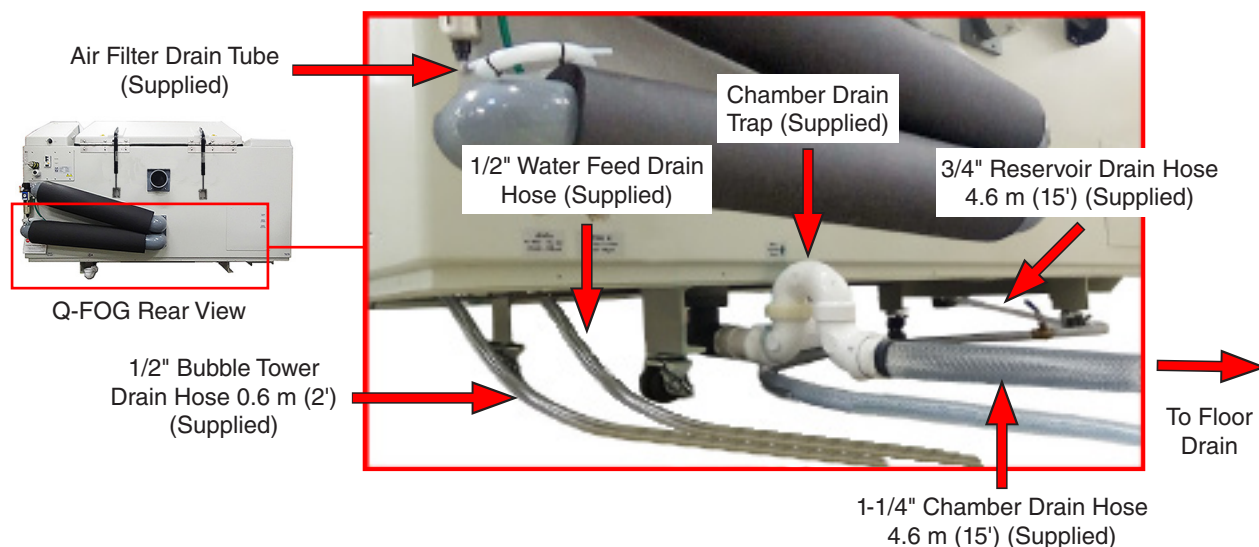
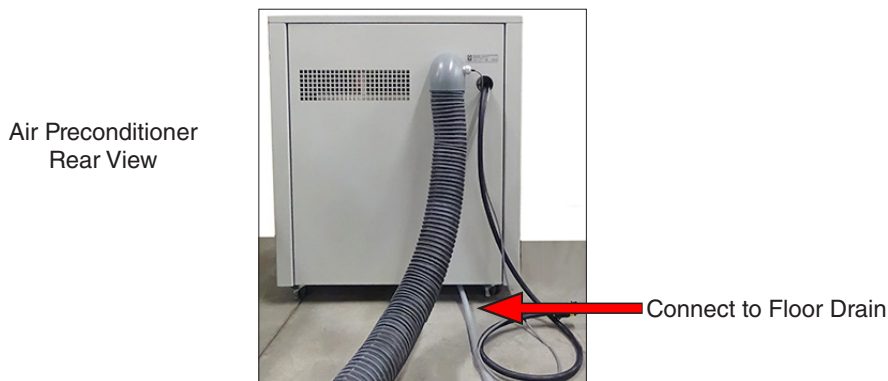

Figure 6.7a: Water drainage connections.
Figure 6.7j: Air Preconditioner drain hose location.
- The Q-FOG tester has multiple drains (Figure 6.7a through Figure 6.7j).
- The end of the Air Preconditioner drainage hose should be connected to a floor drain (Figure 6.7j).